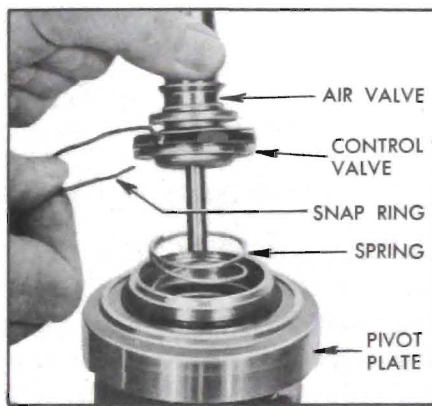

Figure 9-20—Removing Air Valve with Control Valve
equivalent, with push rod up. Remove snap ring then lift the air valve with attached control valve out of pivot plate, and remove the reaction spring. See figure 9-20.
12. Place air valve return spring in bore of hydraulic piston and center the reaction spring on the reaction levers. Lubricate small stem of air valve and rim of rubber diaphragm with silicone grease, install air valve with control valve in pivot plate and install snap ring. See figure 9-20.